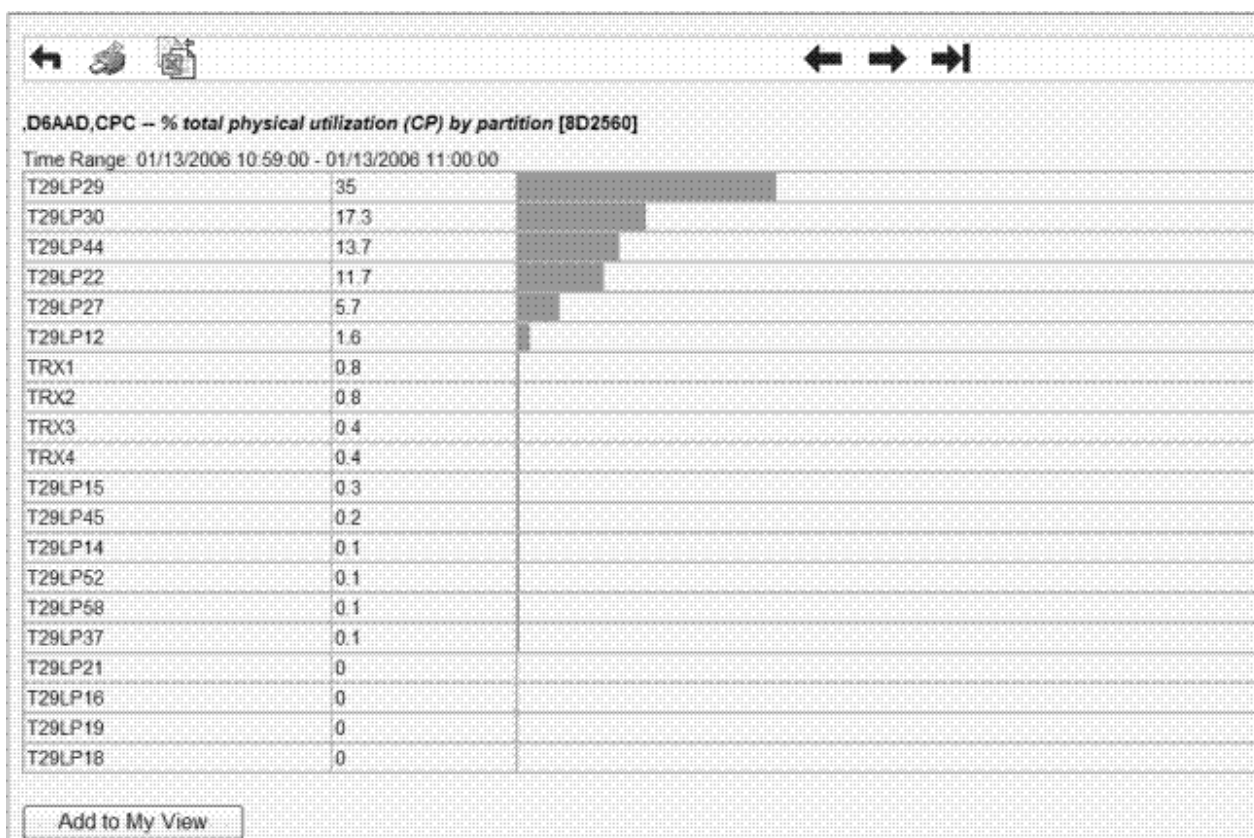

Figure 155. Total utilization of the processors by partitions
If you want to know the total utilization of the physical standard processors by the partitions in the CPC, click on **% total physical utilization (CP) by partition**. Clicking on this metric opens another view presenting the desired results, in our example, a list of partitions, showing the percentage of utilization for each (Figure 155 on page 240).